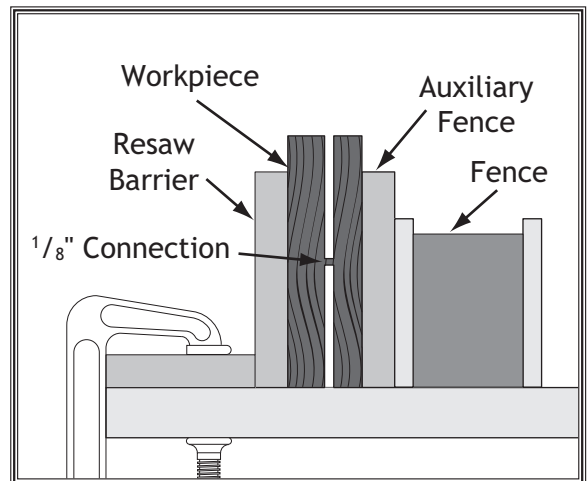

Figure 74. Ideal completed resaw operation.
10. Repeat **Steps 7-9** until blade is close to half the height of board to be resawn. The ideal completed resaw cut will leave an $\frac{1}{8}$ " connection when resawing is complete, as shown in **Figure 74**. Leaving an $\frac{1}{8}$ " connection will reduce risk of kickback.